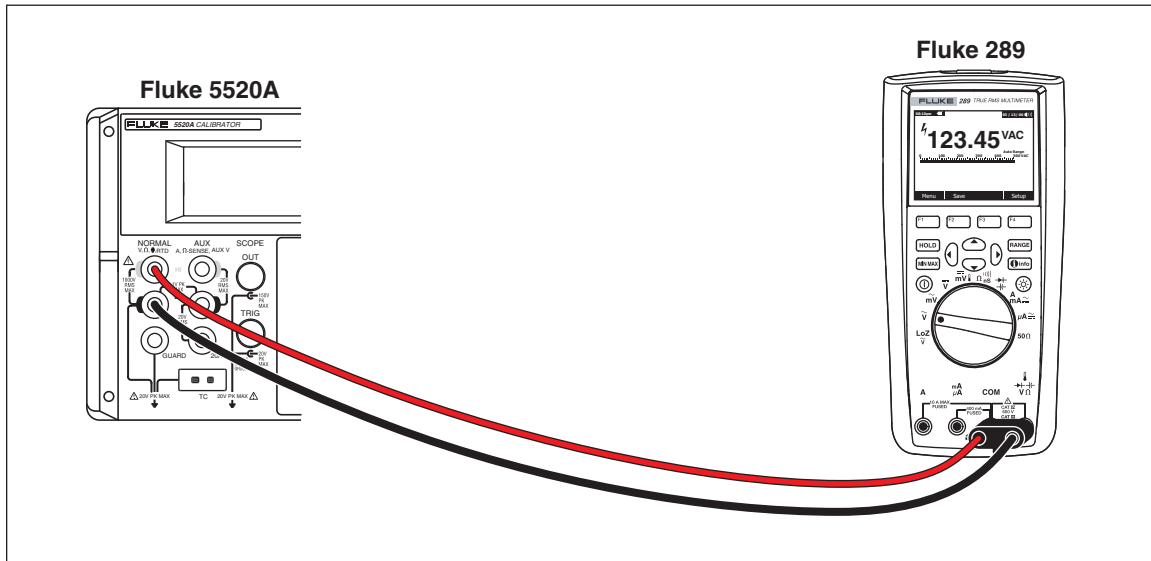

Figure 3-22. Digital Multimeter Characterization Connections
18. Connect the multifunction calibration to the digital multimeter terminals as shown in Figure 3-22.